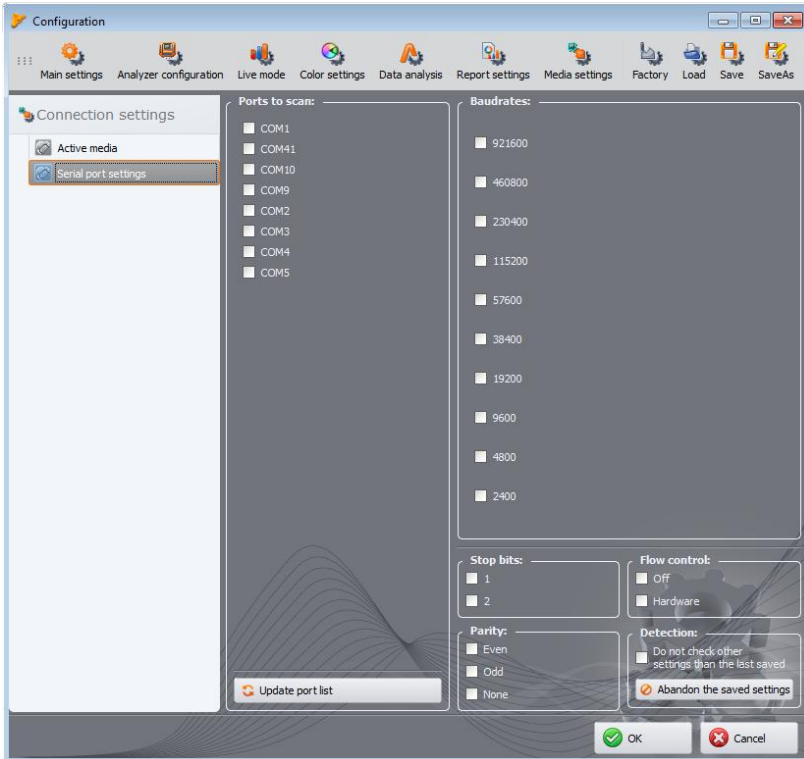

Fig. 87. Program configuration – Serial port settings.
- **PQM-701Zr SERIAL PORT SETTINGS** (Fig. 87) – allows user to select settings for PC serial port that will be applied for connecting with PQM-701Zr analyzer. The following options are available: